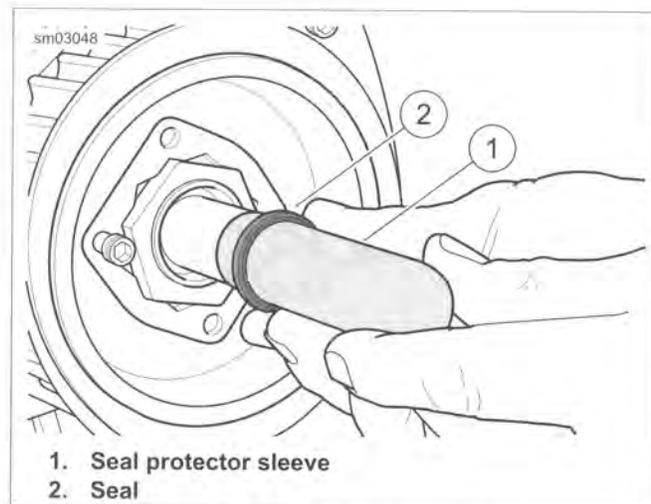
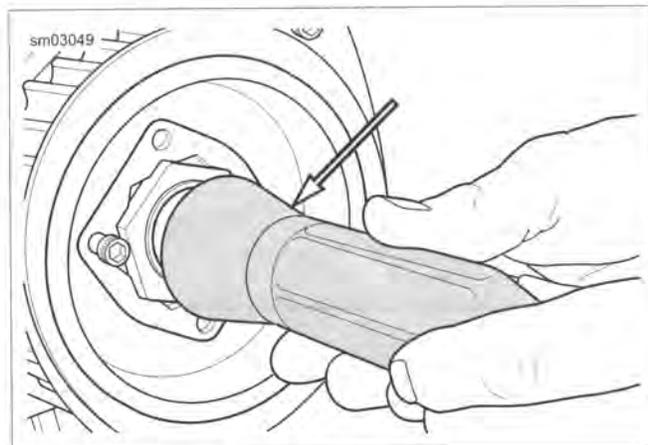

Figure 6-46. Seal Protector Sleeve
Figure 6-47. Seal Driver
3. See Figure 6-46. Place the seal protector sleeve (1) over the end of the mainshaft. Lightly lubricate the protector sleeve and seal ID with clean transmission oil.
5. Squarely seat the mainshaft seal (2) on the seal protector sleeve with the garter spring facing the bearing.
6. See Figure 6-47. Using MAIN DRIVE GEAR SEAL INSTALLER (Part No. HD-47933), hand press seal onto place until seal driver contacts end of main drive gear. A rubber mallet may be used to lightly tap driver, if necessary.